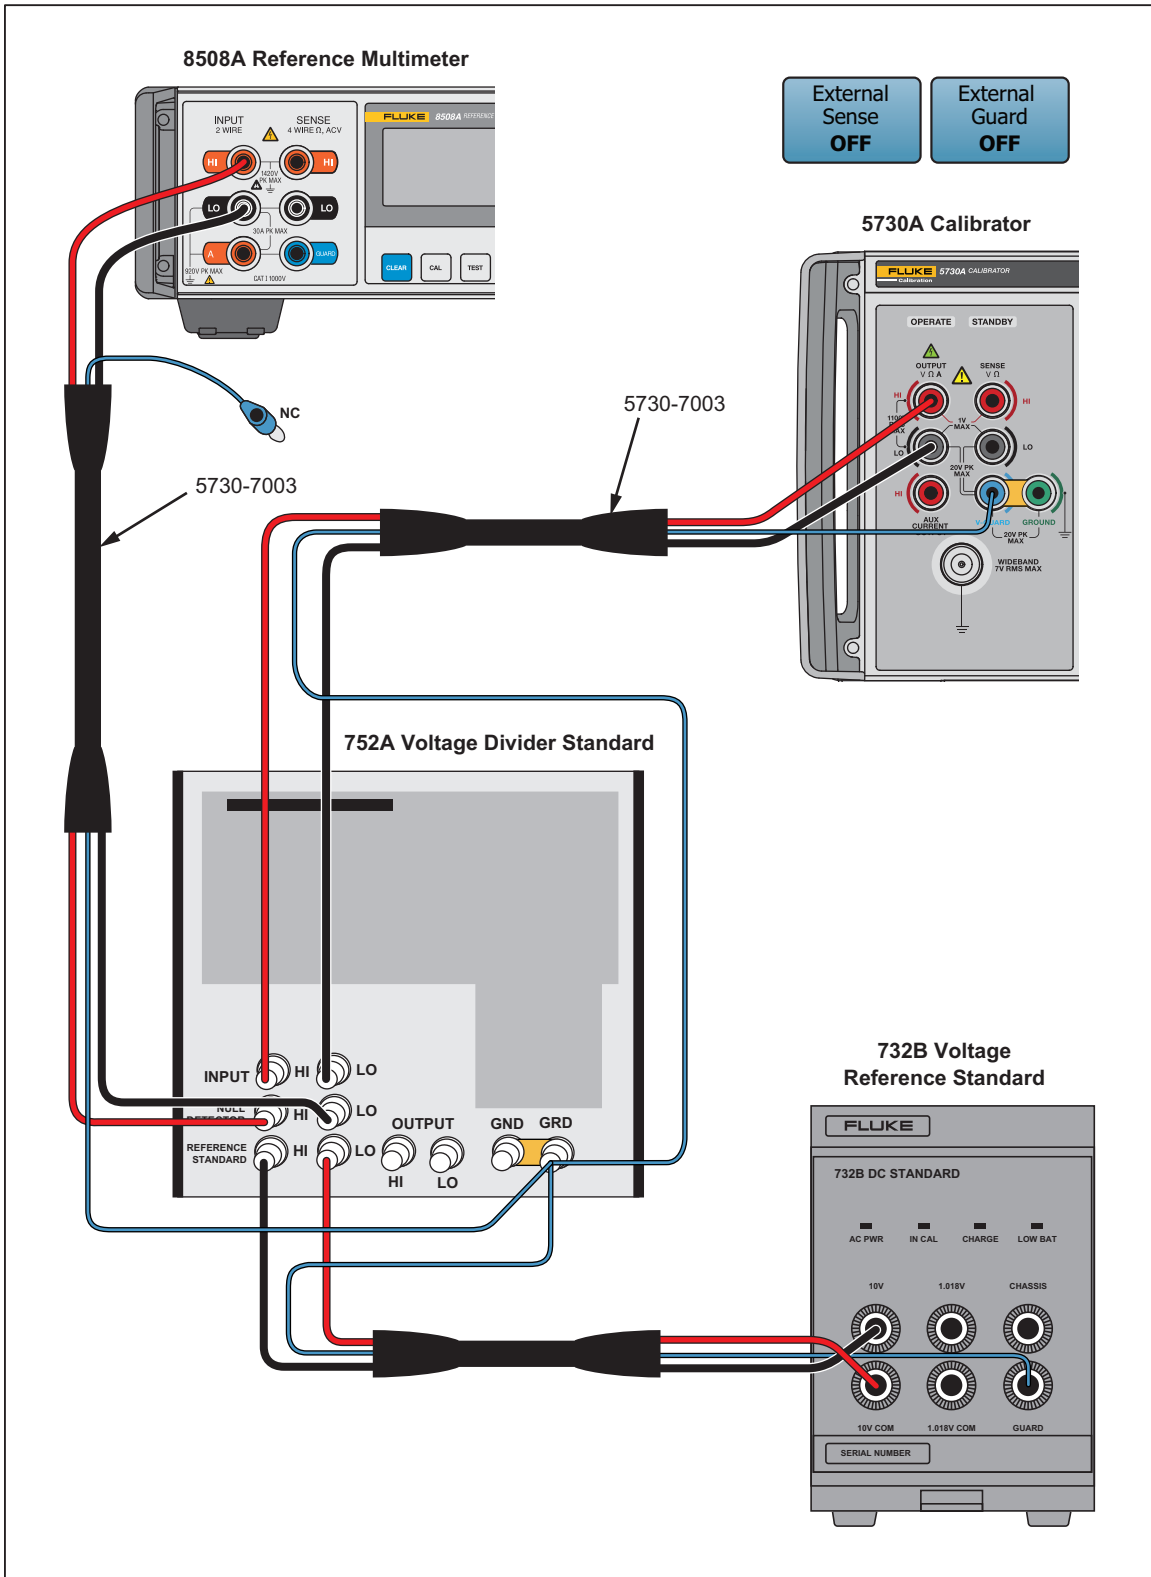

Figure 3. 220 V DC Range Calibration Connections
3. Connect the 732B, 8508A, and 752B in a 10:1 configuration, as shown in Figure 3.